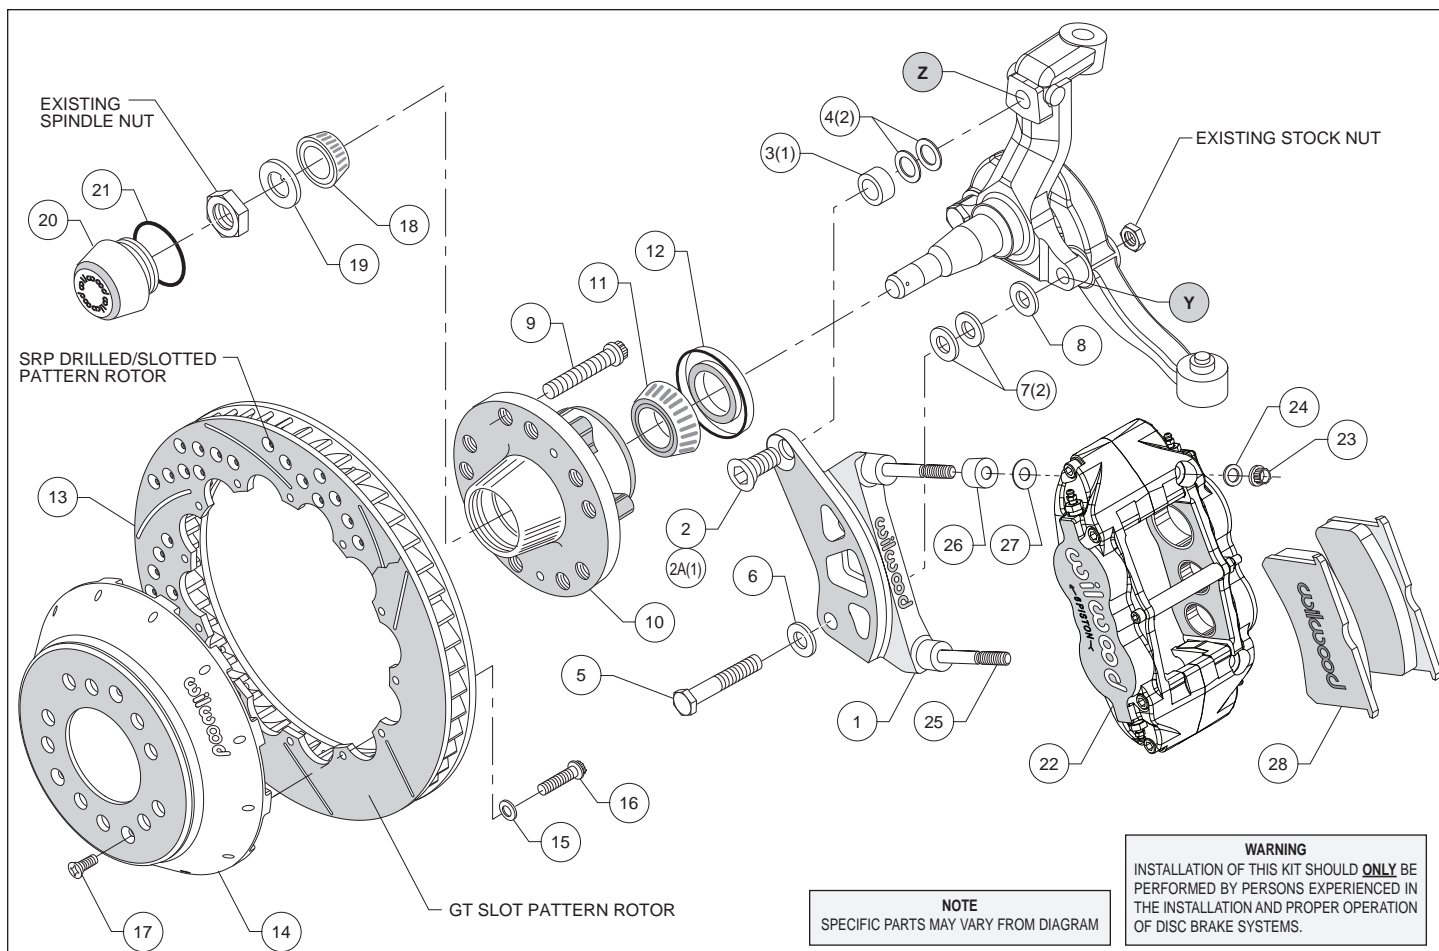
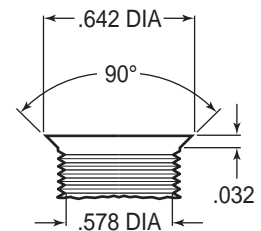
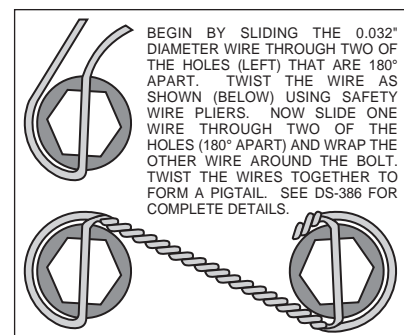

Figure 1. Typical Installation Configuration
Figure 3. Drill and Tap Detail
Figure 4. Safety Wire Diagram
•**NOTE:** 1964-66 spindles may require the following modifications (reference figure 1 and 3): Top anchor pin hole (Z) must be drilled and tapped to the dimensions as outlined in figure 3. Bottom rear steering arm bolt hole (Y) in the spindle and steering arm must be enlarged to .50" by drilling. A 1/2-20 backing nut (not supplied in kit) will need to be acquired to torque bracket / steering arm bolt (supplied in kit).
•**Disc Application:** The caliper mount bracket assembly (1) should be installed first with clean, dry threads on the mounting bolts. Mount bracket (1) to face of dust plate mount pad of spindle using the bottom bolt (5), through washer (6) while positioning washer (7, Heidts spindle kit only) and shim washer (8) "if needed for bracket flatness" between bracket and spindle face, finger tighten only. Install the upper bolt (2A) with spacer (3) and flat washer (4, Heidts spindle kit only), ensuring flatness positioned between bracket and top hole of spindle face. Inspect for interference from casting irregularities, machining ridges, burrs, etc. If everything fits correctly, then remove the mounting bolts (2A and 5) and coat threads with red *Loctite*® 271 and reinstall. Torque bolt (2A) to 120 ft-lb. Torque bolt (5) to 77 ft-lb.
•**Drum Application:** The caliper mount bracket assembly (1) should be installed first with clean, dry threads on the mounting bolts. Mount bracket (1) to face of dust plate mount pad of spindle using the bottom bolt (5), through washer (6) while positioning washer (8) between bracket and spindle face, finger tighten only. Install the upper bolt (2). Inspect for interference from casting irregularities, machining ridges, burrs, etc. If everything fits correctly, then remove the mounting bolts (2 and 5) and coat threads with red *Loctite*® 271 and reinstall. Torque bolt (2) to 120 ft-lb. Torque bolt (5) to 77 ft-lb.
•Install wheel studs (9) into the hub (10). Torque to 77 ft-lb. **NOTE:** There are two five lug patterns in the hub (5 x 4.50 and 5 x 4.75). Make sure of the correct hole pattern for the correct wheel application before installing studs into hub.
- With the larger I.D. side of the rotor (13) facing away from the hat (14), bolt rotor (13) to hat (14) through the backside of the rotor using washers (15) and bolts (16). Using an alternating sequence, apply red *Loctite*® 271 to the threads and torque bolts to 155 in-lb. For an added measure of security, the bolts may be safety wired using standard 0.032 inch diameter stainless steel safety wire as shown in Figure 4. Please refer to Wilwood's data sheet DS-386 (available at www.wilwood.com/Pdf/DataSheets/ds386.pdf) for complete safety wire installation instructions.
- Slide the rotor/hat assembly over the studs (9) in the hub (10) taking care to align the small countersunk holes in the hat (14) with the small threaded holes in the hub (10). Install three flat head socket screws (17) through the small holes in the hat (14) and torque to 85 in-lb.
- NOTE:** This kit contains distinct right and left hand calipers that must be mounted in a specific direction, as described below. Lubricate the caliper mounting studs (25) with lightweight oil. Initially place one .035" thick shim (27) and spacer (26) on each stud as shown in Figure 1. Mount the caliper (22) onto the bracket (1) using lock nuts (23) and washers (24), Figure 1. Ensure that the caliper is mounted so that the largest pistons are at the rotor exit end of the caliper, in relation to the direction of rotor rotation.
- Remove the caliper center bridge pad retainer bolt, nut, and tube from the caliper. Slide the brake pads (28) into place. They should install easily without interference. Check that the outside radius of the brake pad is aligned with the outside diameter radius of the rotor face. Add or subtract shims (27) between the caliper and mount bracket to gain the proper alignment. Lubricate caliper mounting studs and nuts with lightweight oil, reinstall the caliper and torque the caliper nuts (23) to 28 ft-lb. Reinstall the center bridge pad retainer tube, bolt, and locknut. The locknut should be snug without play in the bolt or tube. Be cautious not to over tighten.